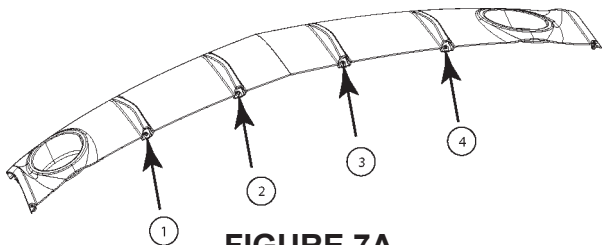

FIGURE 7A
11. Remove 6 U nuts using slotted screw driver, retain 4 of 6. Discard rear diffuser. Refer to figure 7a & 7b.